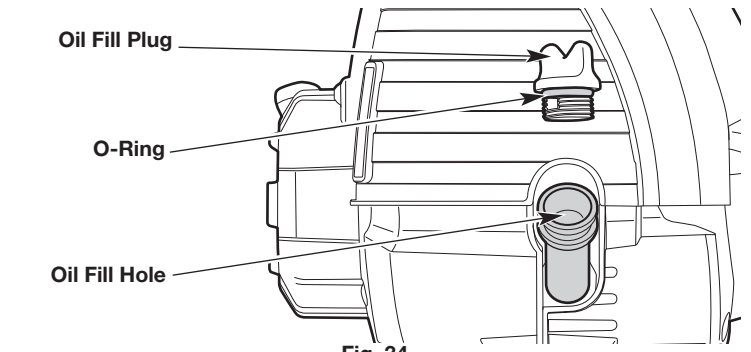

Fig. 34
3. Clean the area around the oil fill plug (Fig. 34) to prevent debris from entering the oil fill hole (Fig. 34).
7. Make sure the O-ring is in place on the oil fill plug (Fig. 34).
1. Clean the area around the oil fill plug (Fig. 34) to prevent debris from entering the oil fill hole.
5. Pour 2.37 fl.oz. (70 ml) of SAE 30 oil into the oil fill hole (Fig. 34).